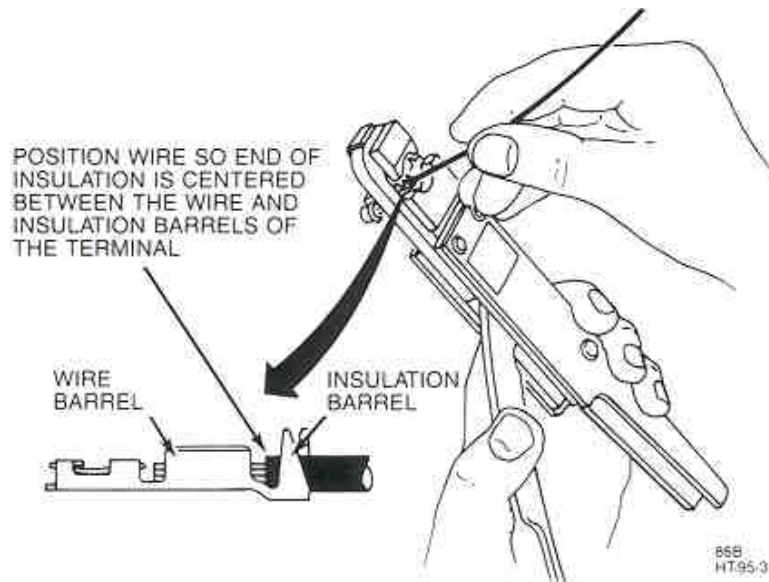

Figure 3. Crimping Terminal to Wire
- While grasping the lever and the handle portion of the frame, insert a wire so that the end of the insulation is centered between the wire barrel and the insulation barrel of the terminal (see Figure 3), and then close the hand tool lever completely. This will crimp the terminal to the wire(s).